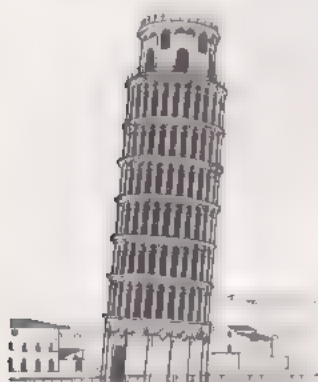

FIGURE 28 Leaning Tower of Pisa
**SAQ 13** The Italian philosopher Galileo used a tower in Pisa to do experiments with falling objects. As it was built it began to lean, as shown in Figure 28. An object, dropped vertically, fell 19.7 m from the gallery and hit the ground 3.47 m out from the wall. What is the distance of the gallery from the base of the tower?